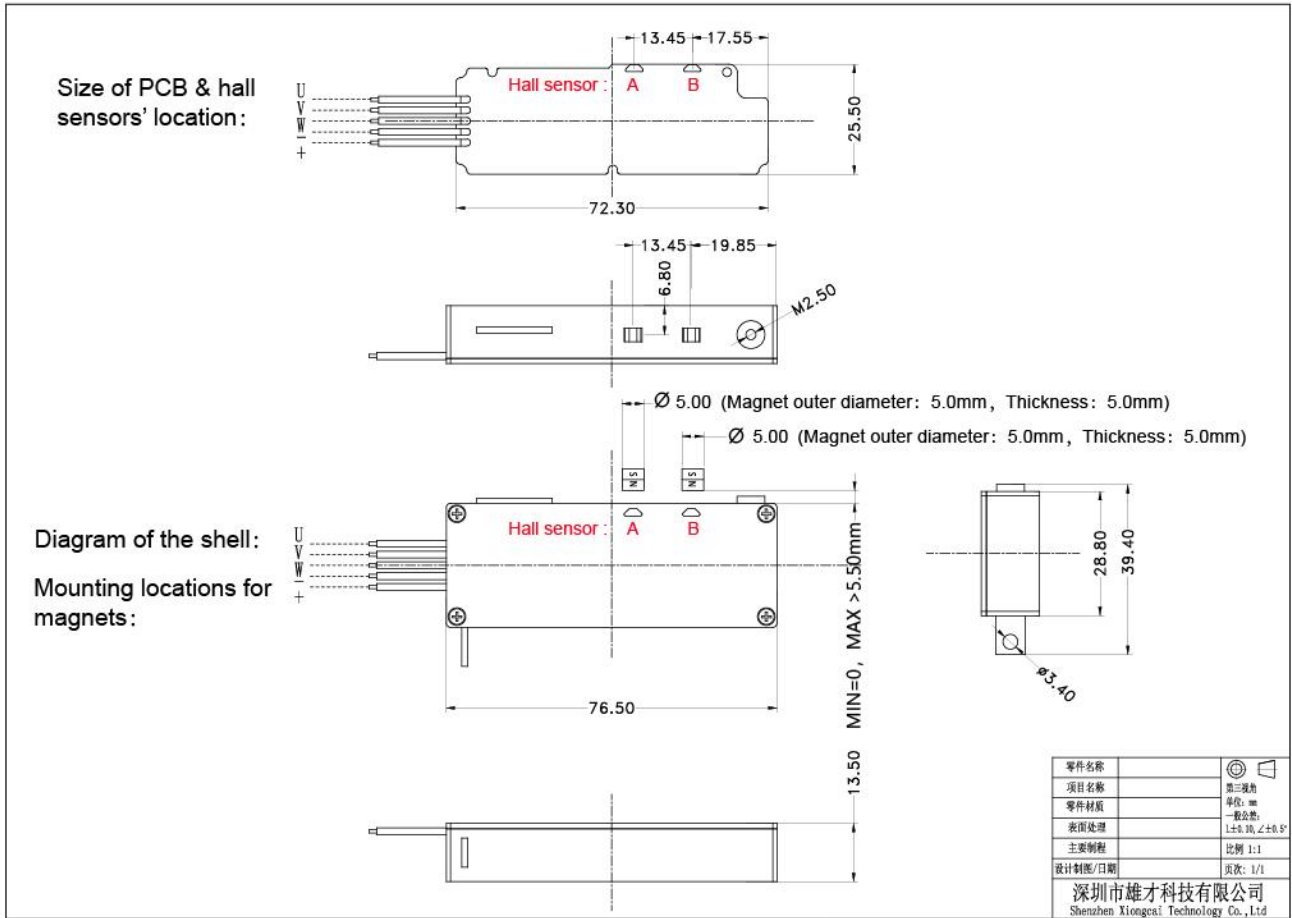

Figure 1
1. Figure 1 above shows the relative position of the Hall and the installation suggestion of the magnet. The N pole of the magnet used to adjust the speed is facing the controller Hall. The magnet materials are all Nd2Fe14B